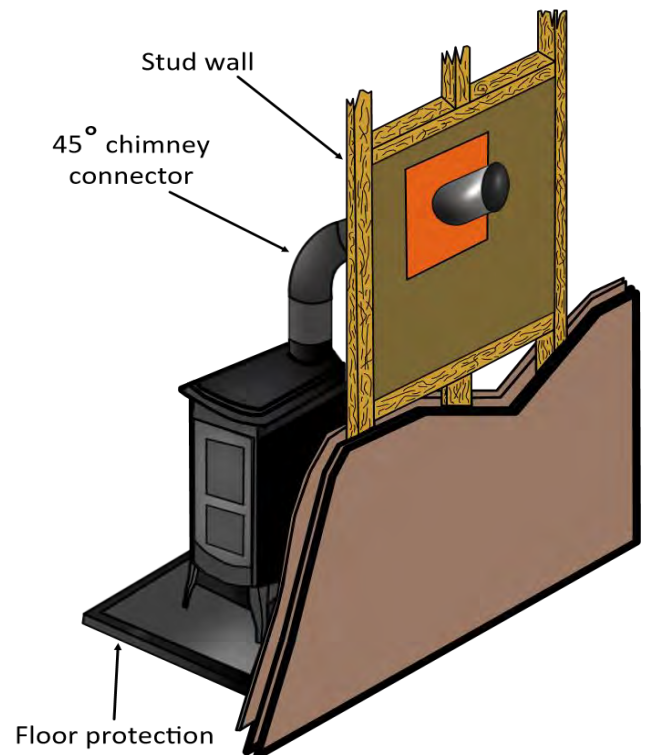

Fig. 5. – An example of a correct Wall pass-through.
- Cut away all combustible material in the wall a sufficient distance from the single wall connector, to provide the required 12" (300 mm) clearance for the connector. Any material used to close the opening must be non-combustible (as in Fig. 5 below).